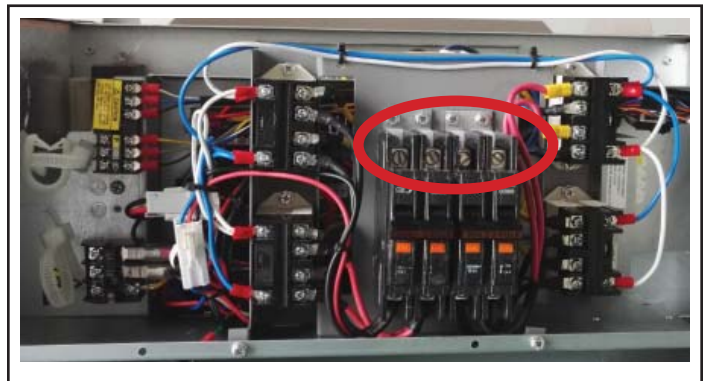

Figure 19. Connect Electrical Power
20. Follow NEC/CEC and local codes for the electrical supply. See figure 19 for power wiring connection location. **NOTE** - Heat kit provides power to indoor unit.